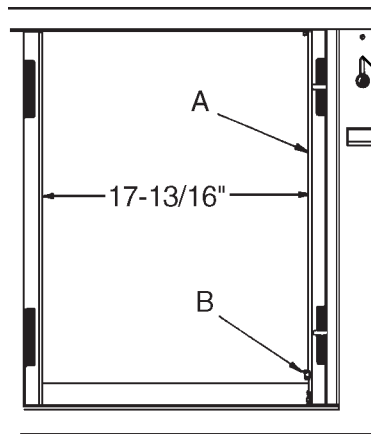

Figure 5. Support Panel
6. The Drawer Support Panel (*Figure 5. Item A*) has four wing nuts (*B*) that are used to adjust the spring loaded panel. Adjust these wing nuts as necessary to obtain an approximate measurement of 17-13/16" between the left and right support panels. It is important to measure across all four corners.